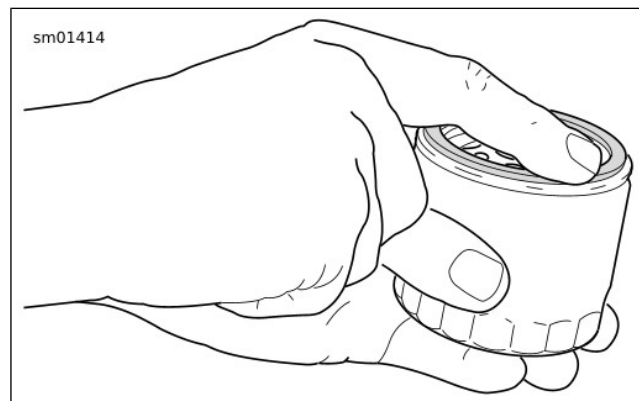

Figure 86. Lubricating New Oil Filter Gasket
7. See Figure 86. Install **new** oil filter.